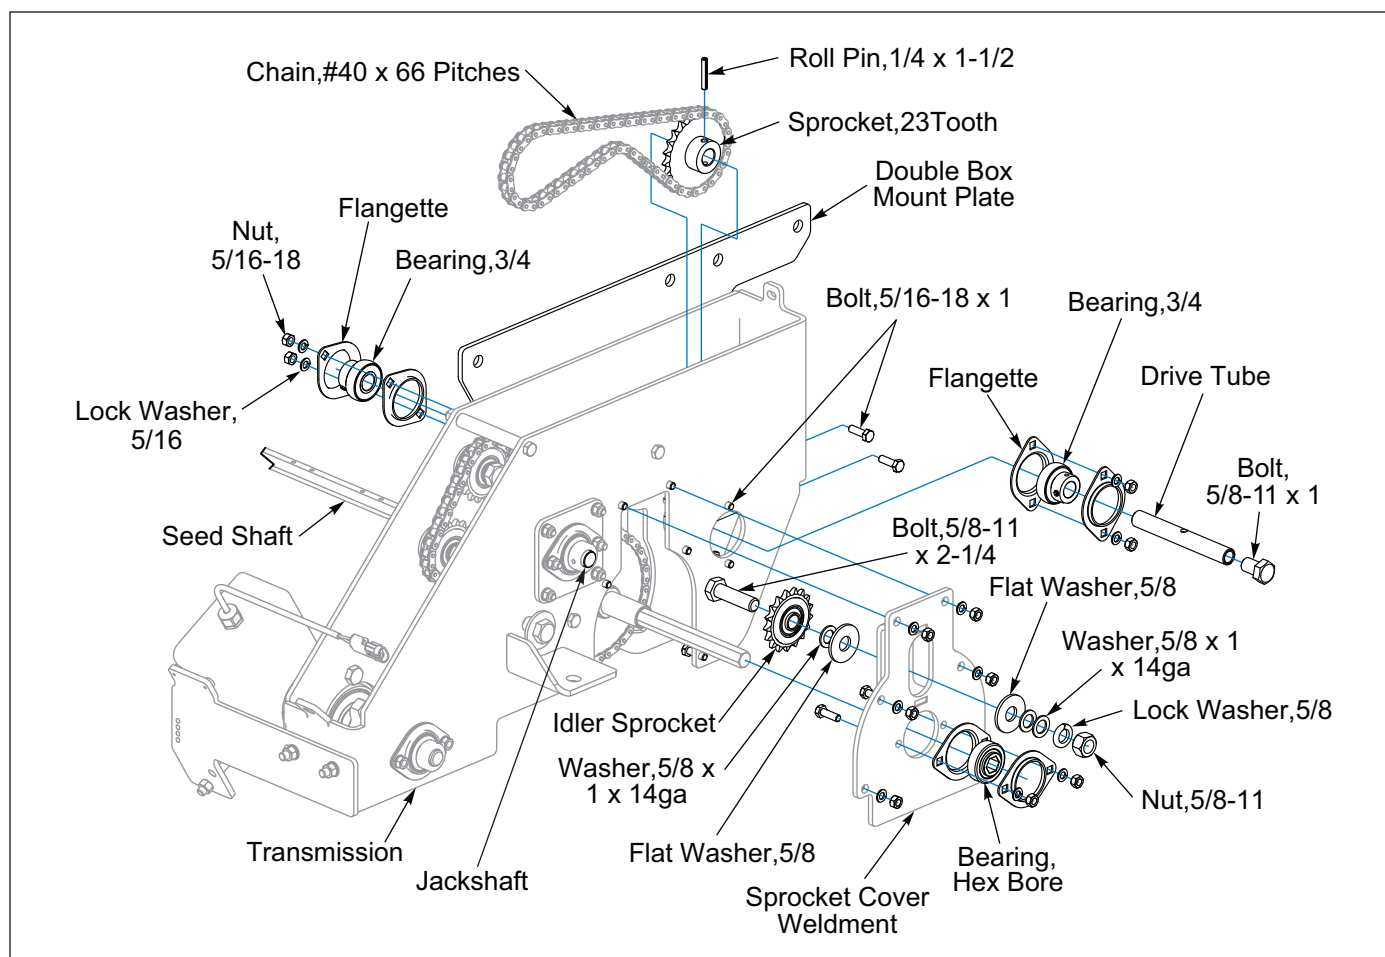

Figure 2-47: Rear Box Transmission
13. Disassemble Hex Bore Bearing from Sprocket Cover and assemble it onto the outside of Sprocket Cover Weldment (surface opposite channel). Do not tighten at this time. **See Figure 2-47.** Assemble Idler Sprocket onto Sprocket Cover Weldment Channel with 5/8-11 X 2-1/4 Bolt, Flat Washers, 5/8 x 1 x 14ga Washers, Lock Washer and Nut. Do not tighten at this time. Mount Sprocket Cover Weldment on Transmission while sliding Hex Bore Bearing onto Front Seed Shaft. Check Idler Sprocket alignment with Jackshaft Sprocket and adjust 5/8 x 1 x 14ga Washers accordingly. Ensure that the Front Seed Shaft is aligned and free to rotate, tighten Hardware.
15. Install 5/8-11 x 1 Bolt into Drive Tube Threaded End. Slide Square Bore End of Drive Tube, towards the Seed Box, through the 3/4" Bearings while installing 23 Tooth Sprocket and secure Sprocket to Drive Tube with 1/4 x 1-1/2 Roll Pin. Align 23 Tooth Sprocket with Idler Sprocket. Tighten Bearing Hardware and Lock Bearing Collars. **See Figure 2-47.**